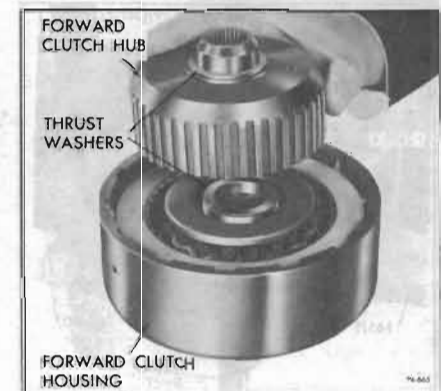

Figure 74-664
8. Install the forward clutch hub thrust washers. Retain with petroleum jelly. See Figure 74-664.
9. Place forward clutch hub into forward clutch housing. See Figure 74-664.